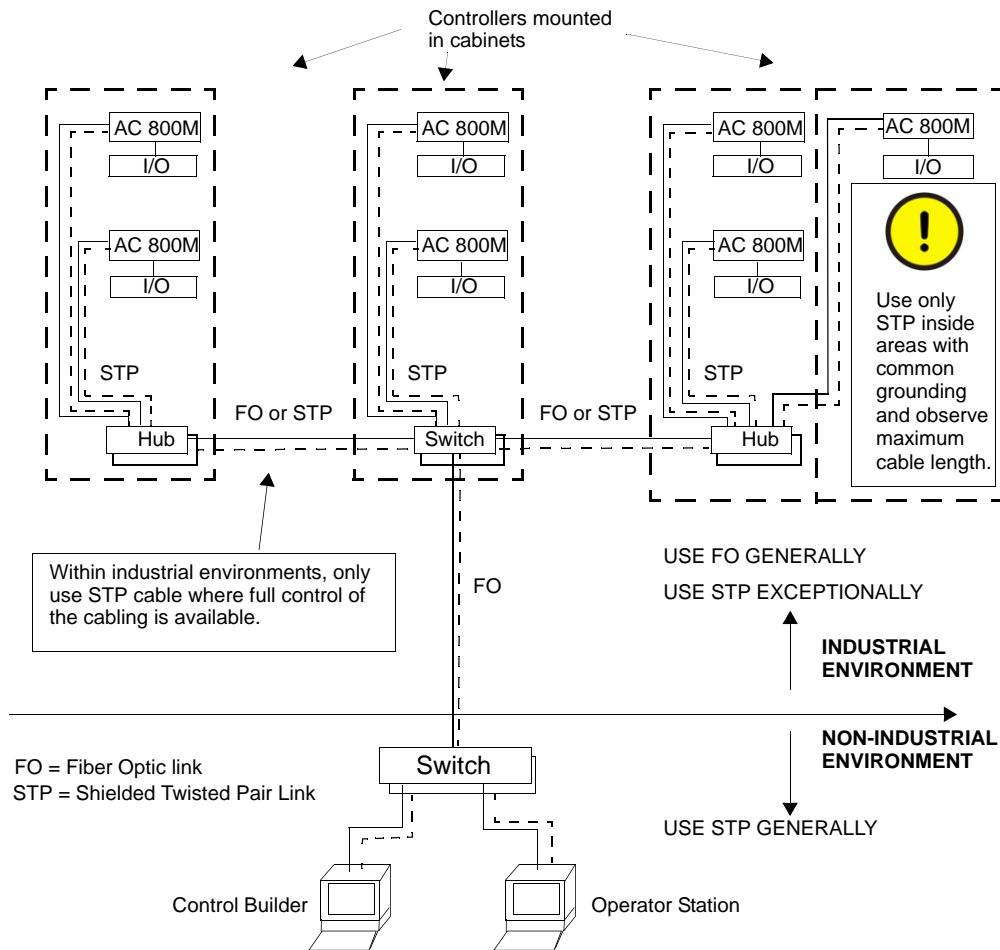

Figure 3.1: Example of AC 800M Controllers Connected to a Control Network
The Control Builder is installed in a PC that is normally connected to the AC 800M Controller via the Control Network and the CN1 or CN2 ports on the controller (see Figure 3.1 on page 146).
The AC 800M controller is always connected to the Control Network via an STP (Shielded Twisted Pair) cable. Should the local environment be of an industrial nature, the AC 800M / Control Network connection must be converted over to a Fiber Optic (FO) cable. This is achieved by installing an Ethernet Switch having both optical and electrical ports. See Figure 3.1 on page 146.